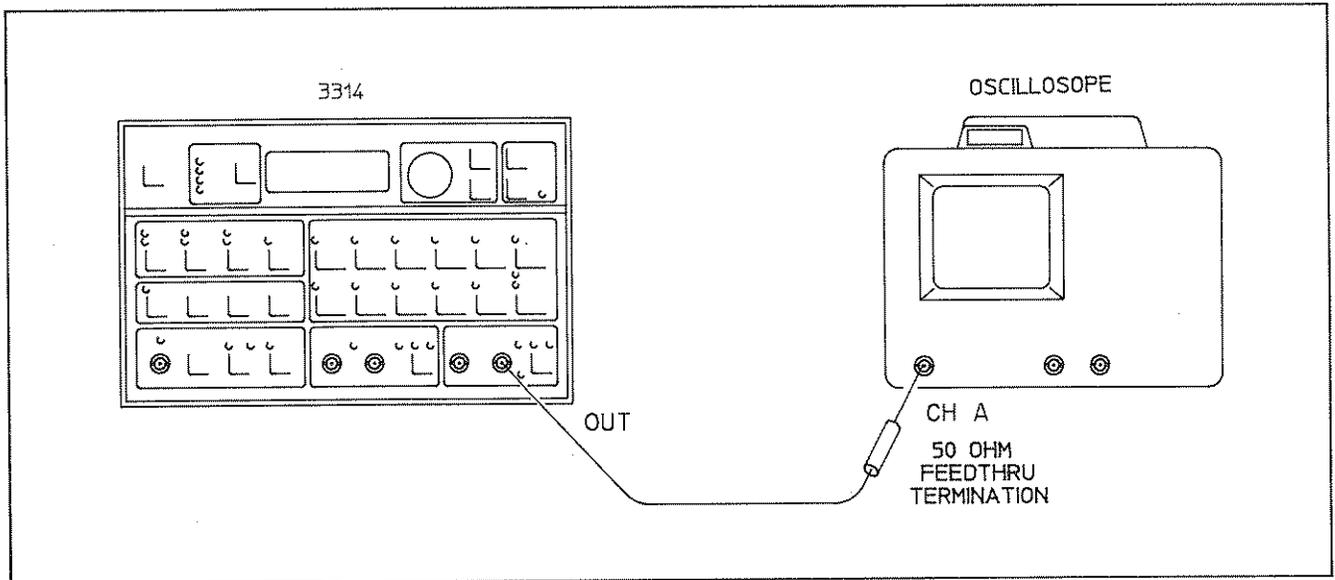

Figure 4-8 Square Wave Rise Time and Aberrations
D. Connect the 3314A to the Oscilloscope as shown in Figure 4-8.